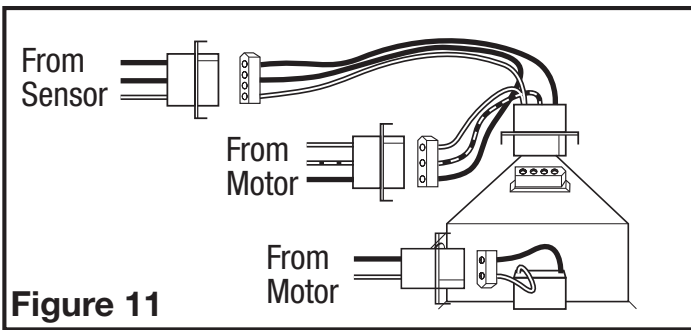

Figure 11
- 2b. **MOTION SENSING MODELS:** Plug the fan's 2 pin quick connect motor cord into the receptacle located on the side of the wire compartment cover. Plug the 3 pin quick connect motor cord into the shorter end of the included harness then into the receptacle located on the top of the wire compartment cover. These cords will only fit one way into the receptacles (**Figure 11**).